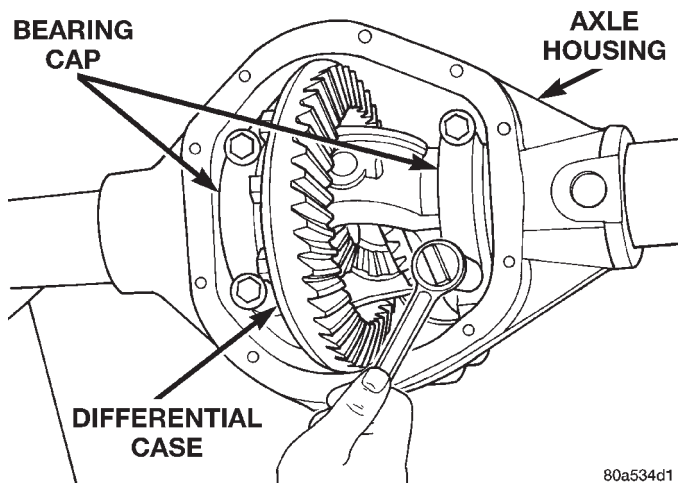

Fig. 53 Tighten Bolts Holding Bearing Caps
(6) Install the marked bearing caps in their correct positions. Install and snug the bolts (Fig. 53).